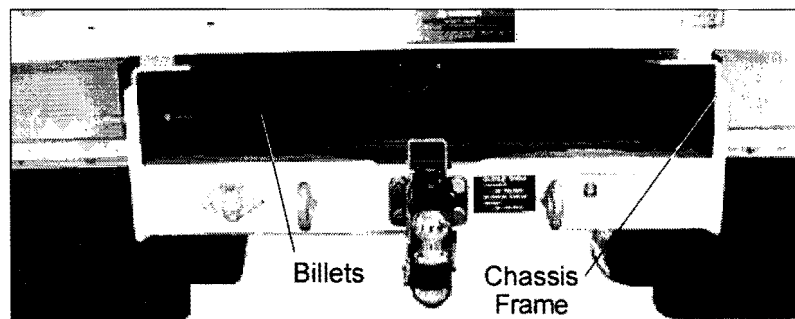

Figure 1 — Counterweight Placement
2. The steel billets are located inside the frame extension at the rear of the vehicle (refer to Figure 1).